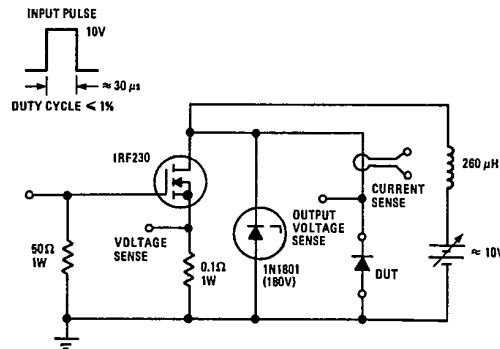

Fig. 11 –  $I_{RRM}$  Test Circuit
①  $T_C = -55$  to  $172^\circ\text{C}$ , 180° conduction
②  $T_C = 0$  to  $172^\circ\text{C}$ , 180° conduction
③  $T_C = -55$  to  $162^\circ\text{C}$ .
④ For SD241 rated  $V_{RWM}$  and  $V_{RRM} = 45\text{V}$  @  $T_J = 25^\circ\text{C}$ ;  $= 35\text{V}$  @  $T_J = 150^\circ\text{C}$
⑤  $I^2t$  for time  $t_x = I^2\sqrt{t} \cdot \sqrt{t_x}$ .
⑥ For test circuit refer to Fig. 11.